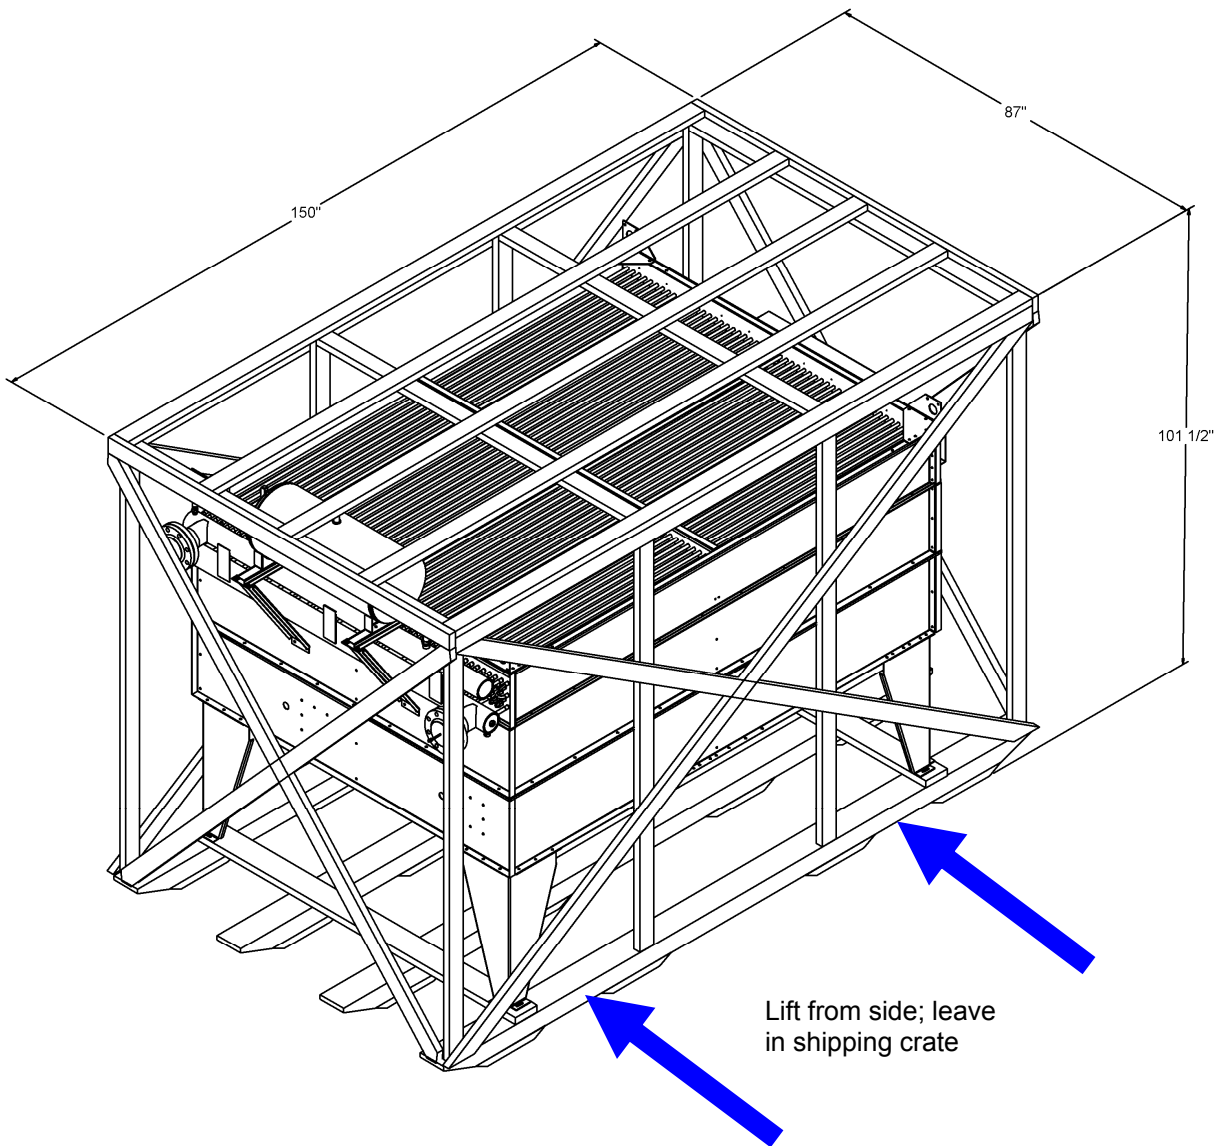

Figure 2-8: Lifting the Dry Cooler (shown in shipping crate)
- (a) Using necessary mechanical assistance (forklift, etc.), position the dry cooler in its final location on the pre-built concrete foundation (see Figure 2-1). See Appendix B for manufacturer's installation instructions for the soda load and dry cooler. For dry cooler installation, Nautel recommends the following (see Figure 2-8):
- Lift the dry cooler, within its shipping crate, from its side (see Figure 2-8). Set the forks as much as possible to stabilize the dry cooler when lifting.